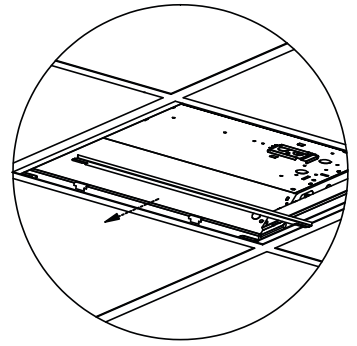

Fig. 3
- 3 Install LED panel side brackets between the fixture and T-grid, if you are uncomfortable with the gap between the fixture and T-grid, There are two tabs to allow for placing the side brackets into the slot of end brackets.(Fig.3)